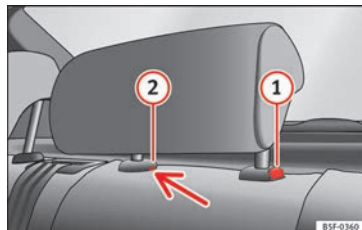

Fig. 149 Rear centre head restraint: release point.
- To set the head restraint lower down, press the **1** » **Fig. 149** button and move it downwards.